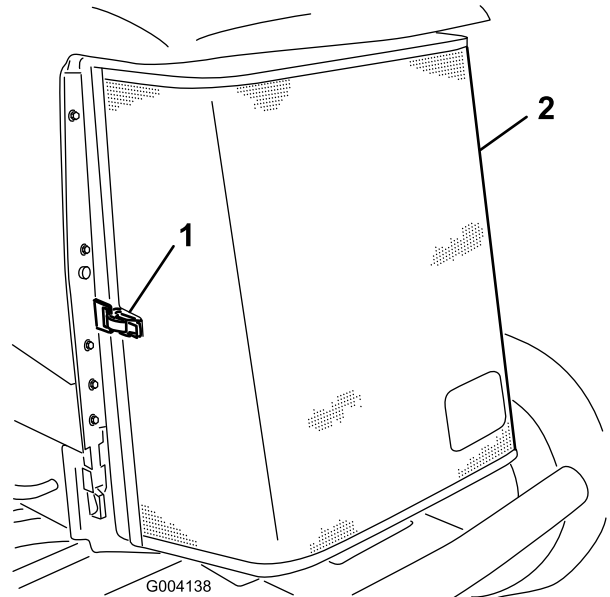

Figure 49
3. Unlatch the clamp and pivot open the rear screen (Figure 49).